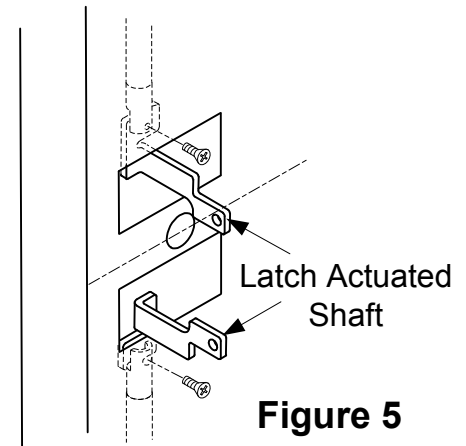

Figure 5
1. Attach one Latch Actuated Shaft to the top and bottom shaft connectors (figure 5) with screws supplied.